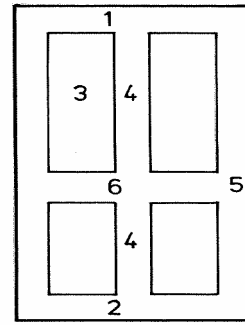

Figure 1
- 6 From figure 1 below use the key to identify the correct sequence for glossing a four panelled door commencing with 3 panels/mouldings.